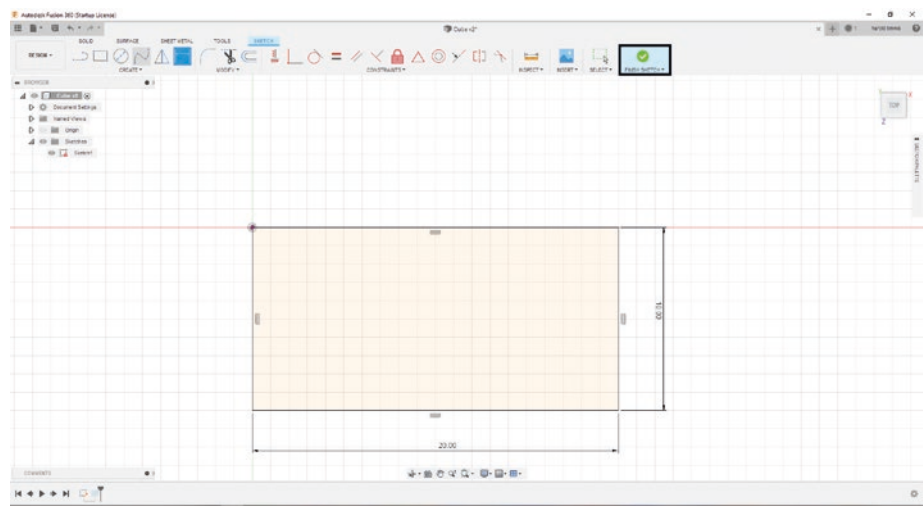

Figure 3-56. Click the “FINISH SKETCH” button
- 5. Click the “FINISH SKETCH” button. See Figure 3-56.